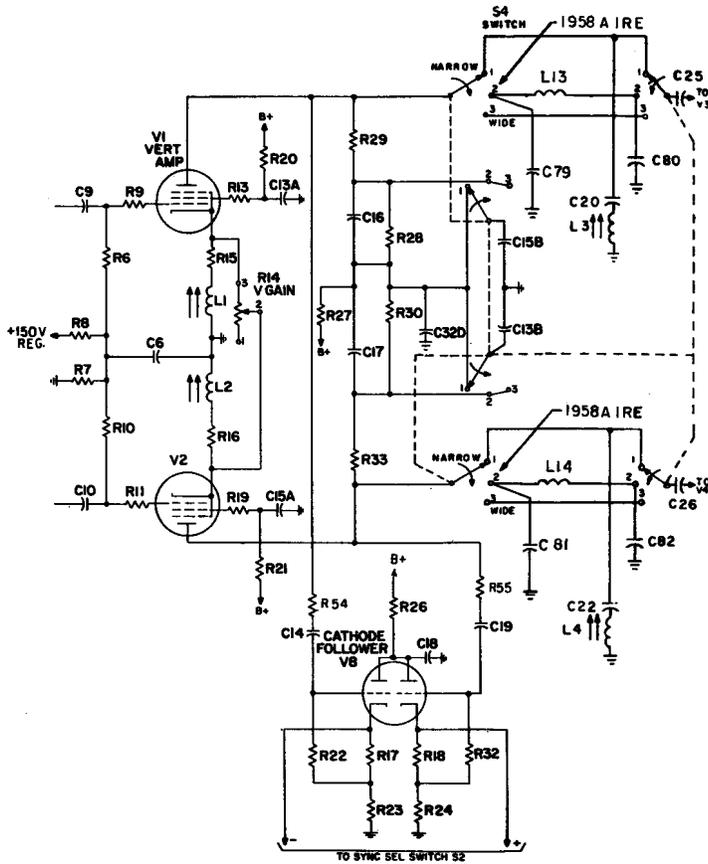

Fig. 7 – Vertical Amplifier and Sync Separator
**4.06** As shown in Fig. 7, when an unbalanced signal is fed to electron tube V1 or V2, the stage acts as a cathode coupled phase inverter. For a balanced signal fed simultaneously to V1 and V2, the stage acts as a push-pull amplifier.
**(E) Sync Separator Circuit**
**4.17** The dual cathode follower, V8 (Fig. 7), couples two signals, 180° out of phase, from the vertical amplifier to positions 2 and 3 of the SYNC SEL switch S2. The first position